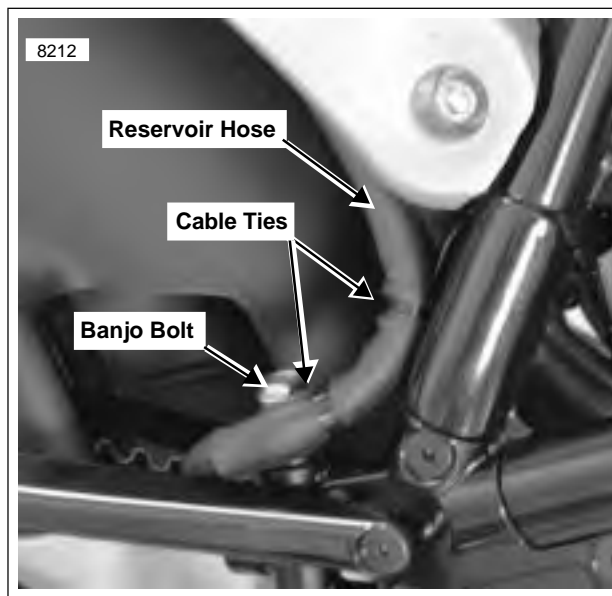

Figure 2-50. Rear Master Cylinder Banjo Bolt
7. See Figure 2-50. Cut two cable ties holding rear brake reservoir hose to rear brake line above rear master cylinder on right side of motorcycle.
8. See Figure 2-50. Install two cable ties (thick) to reservoir hose and rear brake line in **two** locations as shown in figure. Use care to avoid pinching hose.